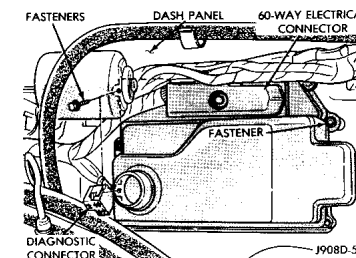

Fig 3
2. Remove the 60 way connector for the wiring harness using an 8mm socket (Fig. 3)
3. Using the same socket, remove the (3) module mounting screws (Fig. 3)